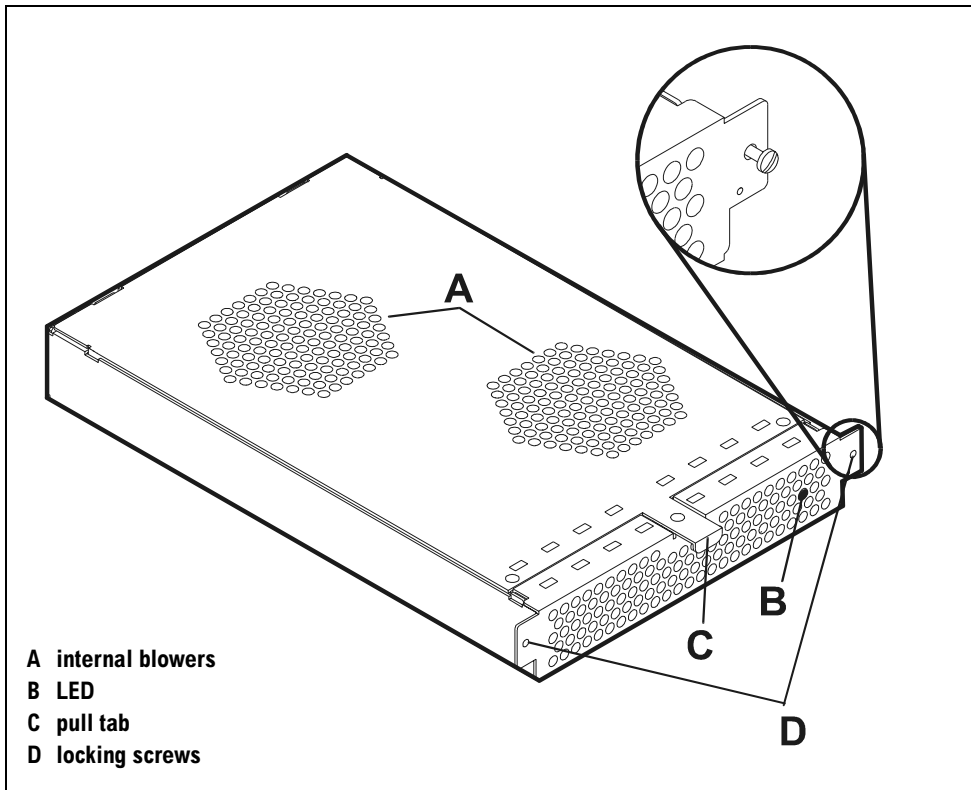

Figure 6 Fan
Redundant, hot-pluggable fans blow cooling air over system components. Each fan has two internal high-speed blowers (A in Figure 6), an LED (B), a pull tab (C), and two locking screws (D).